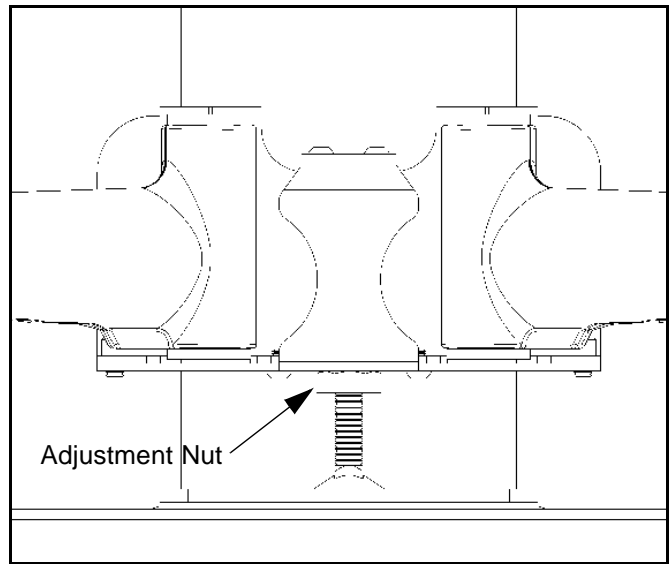

Figure 4
1. Check PNR for the desired height. If needed, use the adjustment wrench (40) to adjust the PNR height.
- Turn adjustment nut (see Figure 4) clockwise (CW) to lower the unit height, or